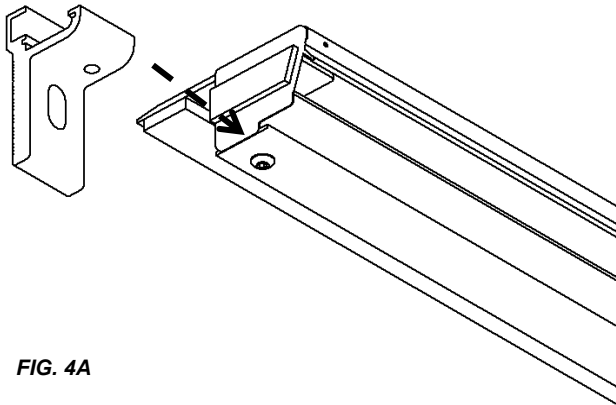
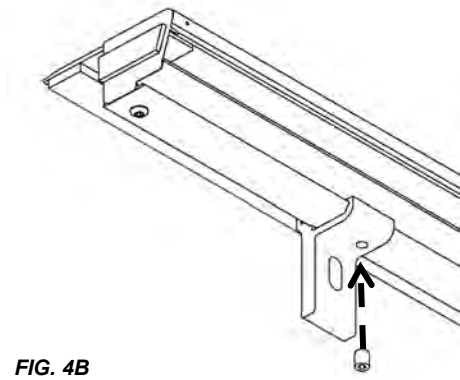
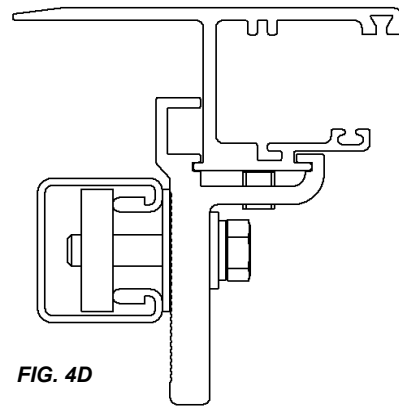

FIG. 4A
FIG. 4B
FIG. 4D
Secure the rails to the truck bed by installing two clamp assemblies per rail. Slide the Clamp Grip onto the Rail at the end of the rail and slide it ### inches. Next install the set screw to lock the Clamp grip to the rail with a 1/8" Allen Wrench (FIG 4B). Assemble the rest of the clamp parts as shown (Fig 4D). Before tightening the rail clamps, set the Rail End Caps about 1/16" from the tailgate. This space will allow for overstroke when closing the tailgate.
Finally, check for proper spacing by measuring between the rails at the canister and the tailgate end of the rails (Fig 4A). The measurement should be equal to or less than those in Fig 4B. The Rail Brackets and Shims have been pre-installed to achieve the proper Between the Rail dimensions (BR) when placed on an average factory truck bed. However, not all truck beds are average dimensionally and some have optional plastic caps or over the rail spray-in bedliners